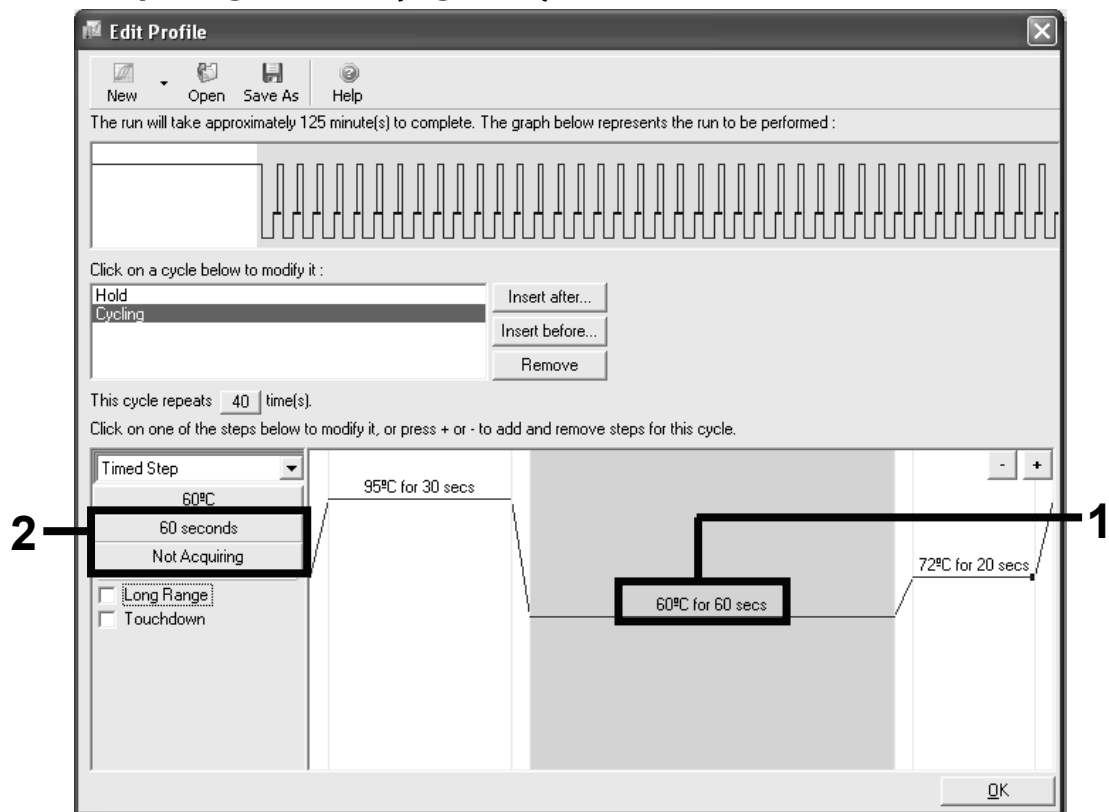

Figure 7. Cycling step at 60°C.
16. Highlight "60°C for 20 secs". Set the time to 60 seconds. Select the "Not Acquiring" button (Figure 7).